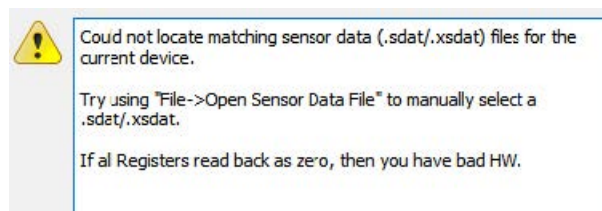

Figure 5. Load In Notice
4. (ALL) If DevWare is configured to automatically detect devices on startup (the default configuration) then it will likely show up with the following message as seen in Figure 5. If not, then go to "File->Detect Devices to initiate the search process. Click OK when this window appears: